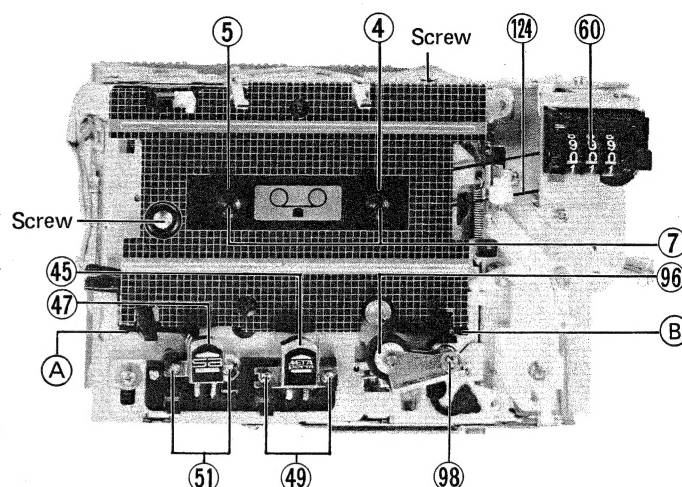

Fig. 10
A. Pinch roller arm ass'y (96) (Fig. 10)
1. Remove E-ring (98).
B. Heads (Fig. 10)
1. REC/PB head (45)
C. Cassette plate (Fig. 10)
2. To remove the cassette plate, hold upper side on the (A) and (B) points.
D. Tape counter (60) (Fig. 10)
1. Remove the counter belt (124).
E. Reel disk ass'y (Fig. 10)
1. Take-up reel disk ass'y (4)